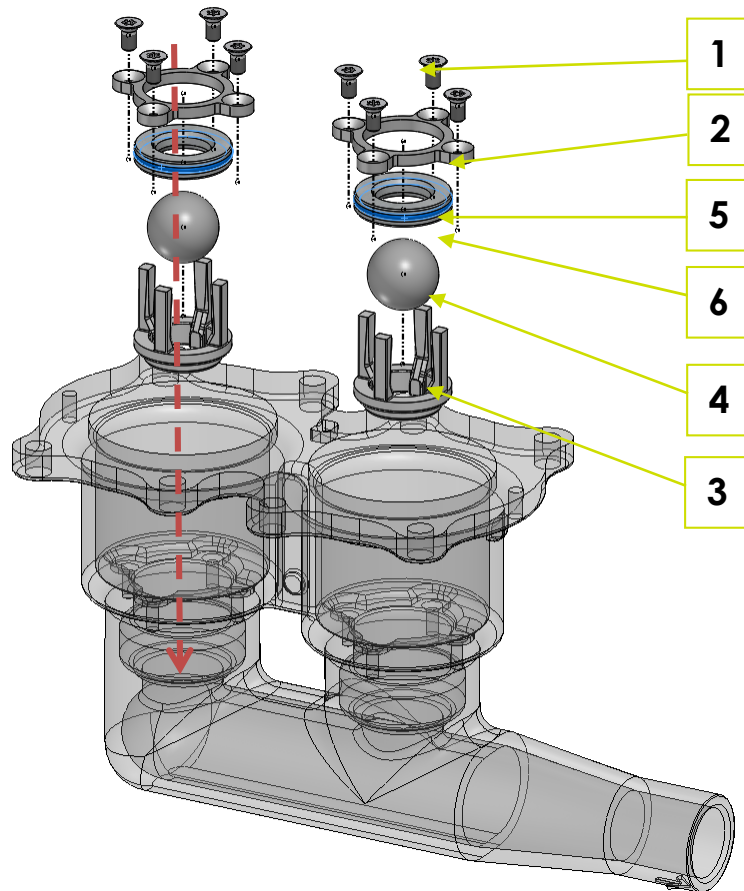

Fig. 6-4: Assembly of the media valves in the pump head
1. Insert both new balls (4) and cages (3).
2. Insert new valve seats (5), greased with Renolit Unitemp 2, with new O-rings (Fig. 6-4: Assembly of the media valves in the pump head).
3. Insert both retaining stars (2).
4. Clean all eight countersunk head screws M6x12 (1) and grease them with Renolit Unitemp 2.